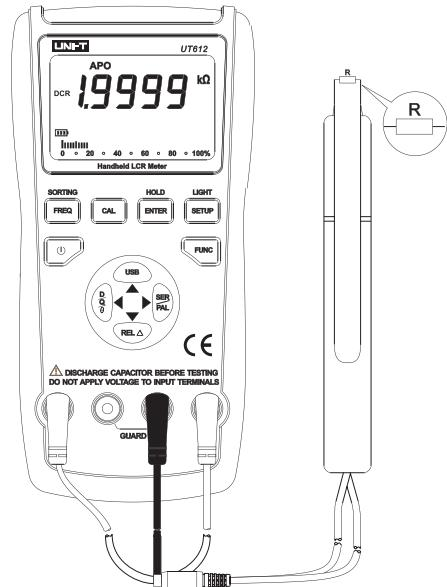

Figure 13
3) Insert resistance into testing port or connect corresponding fittings to measured resistance (shown in Figure 13).